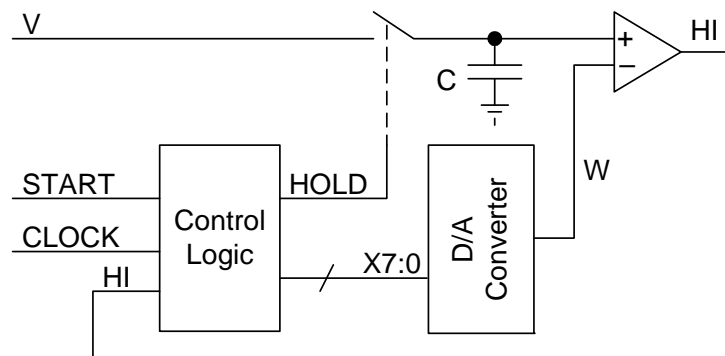

Figure 6
4. *Figure 6* shows the circuit for a successive approximation Analog-to-Digital converter having an input voltage V and a two's-complement signed 8-bit output $X7:0$ in the range -128 to $+127$. One LSB of the converter is equal to 0.2 V and input voltages in the range ± 0.1 V are converted to the value 0. [3]